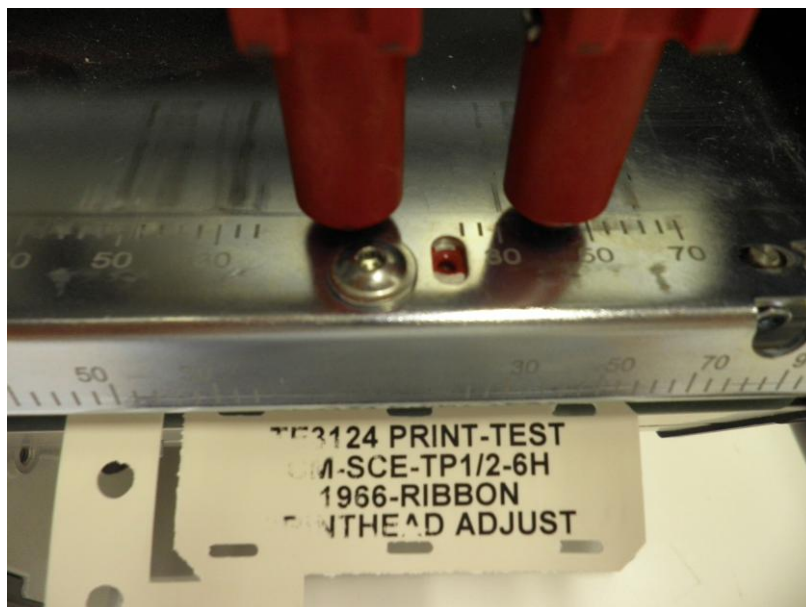

**Figure 1 - Pressure toggles setup for print area of product to be printed.**
**2.1. Toggle Position** - place the pressure toggles (Figure 1) on the edges of the printable area.